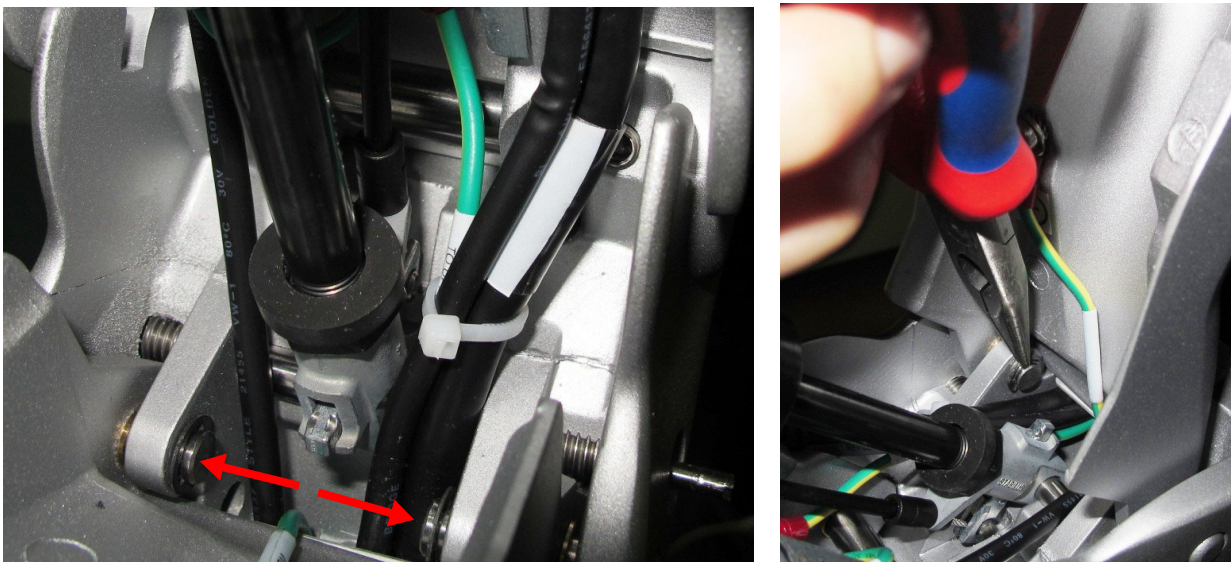

Figure 8-109 Two Cir-clips on Either Side of Gas Spring
a.) Release two cir-clips on either side of the gas spring - Figure 8-109 below.
- 4.) Secure the lower section of the lower arm to its position on the central column and secure it in position by inserting the two securing shafts previously removed - refer to Figure 8-109 on page 8-86.